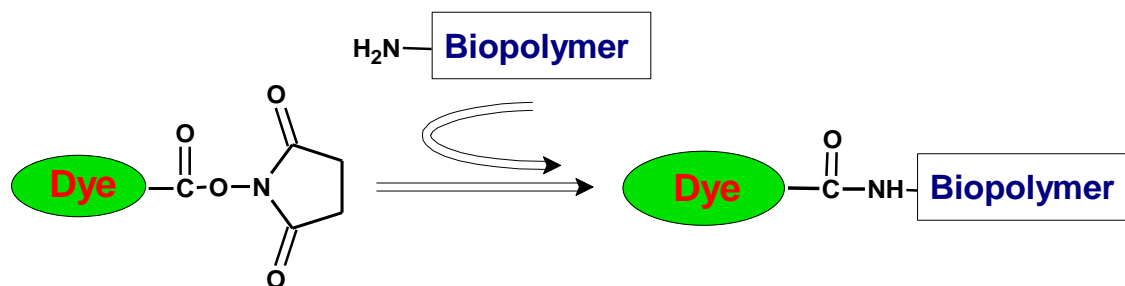

Figure 1. Labeling of an amino group (for instance, a lysine) on a biopolymer (i.e., a protein) with a succinimidyl ester of a dye.
AnaTag™ HiLyte Fluor™ 750 Protein Labeling Kit provides a convenient way to label proteins by using the succinimidyl ester (SE) reactive form of HiLyte Fluor™750. The succinimidyl ester shows good reactivity and selectivity with aliphatic amines of the protein and forms a carboxamide bond, which is identical to, and is as stable as the natural peptide bond (Figure 1). HiLyte Fluor™750-protein conjugates can withstand treatments performed during immunofluorescent staining, *in situ* hybridization, flow cytometry and other biological applications without hydrolysis.